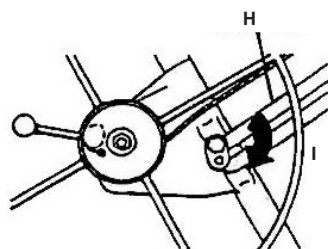

FIG. 5
5. Press the winch assembly slightly back toward the frame. This automatically engages the slide bar (H) lock to keep the winch fully extended. (Figure 5)